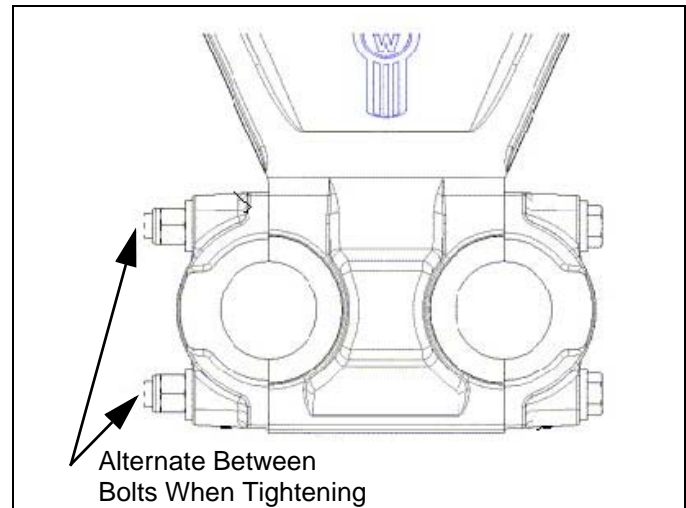

Figure 17-23
6. Tighten the joint evenly by alternating back and forth between the top and bottom bolts a minimum of 5 times (ensuring the joint is evenly clamped and the bushing is properly compressed). See Figure 17-23.
7. Repeat tightening procedure at all bushing locations. See Figure 17-23.